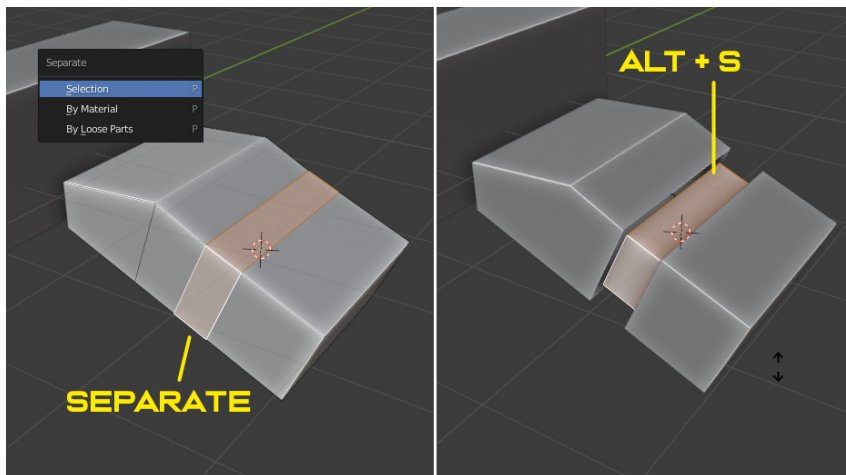

Figure 5.4 – Separating and narrowing
4. Extrude the side a little further and create two loop cuts, as shown in *Figure 5.4*. Using the *P* shortcut, separate the face loop between the loop cuts and narrow it using *Alt + S*. This will scale the shape down while ensuring every edge is equally distant from its starting point.